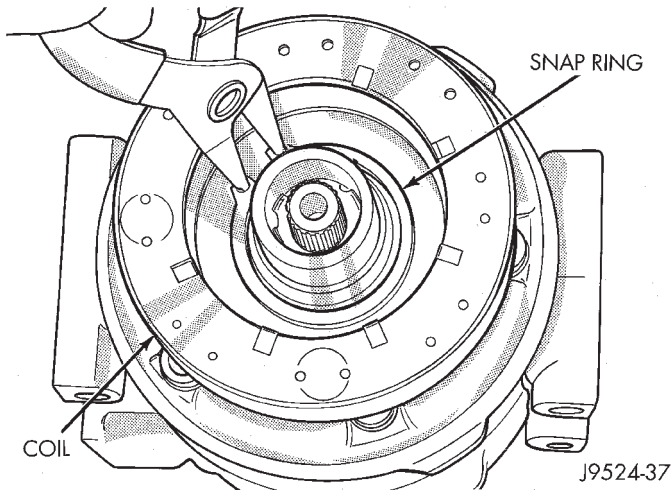

Fig. 14 Clutch Coil Snap Ring Remove/Install
(7) Remove the screw and retainer from the clutch coil wire harness on the compressor front housing.
(8) Remove the snap ring from the compressor hub and remove the clutch field coil (Fig. 14). Slide the clutch field coil off of the compressor hub.